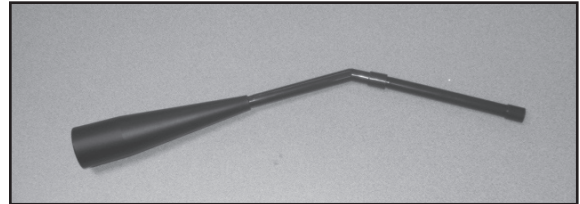

Figure 3
3. Assemble the crevice tool from the Micro Cleaning Kit to attach to a Shop Vac. **Figure 3.**